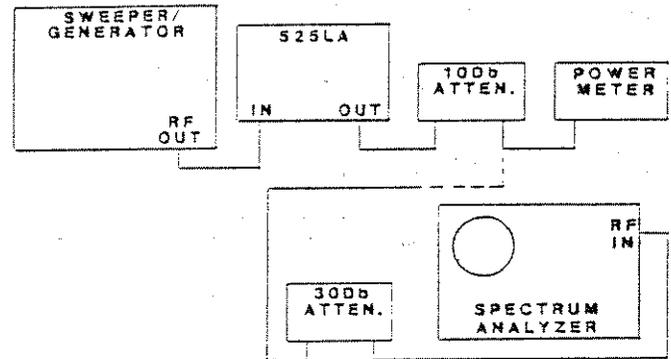

Figure 5-3. RF Output Distortion Test Set-Up
- a. Set up the test equipment as shown in Figure 5-3.